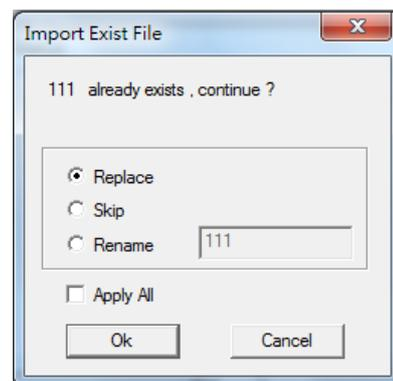

Fig. 3.1.02
2. Select the items and click **“...”** to select the folder user want to export or import, then click **“Import”** or **“Export”** button. If the name of lens has already existed, the system will pop a warning dialog box, see Fig.3.1.02. Please notice that **“\*Jen (Lens cor. File)”** is only used for version 2.4, so it can only be import.